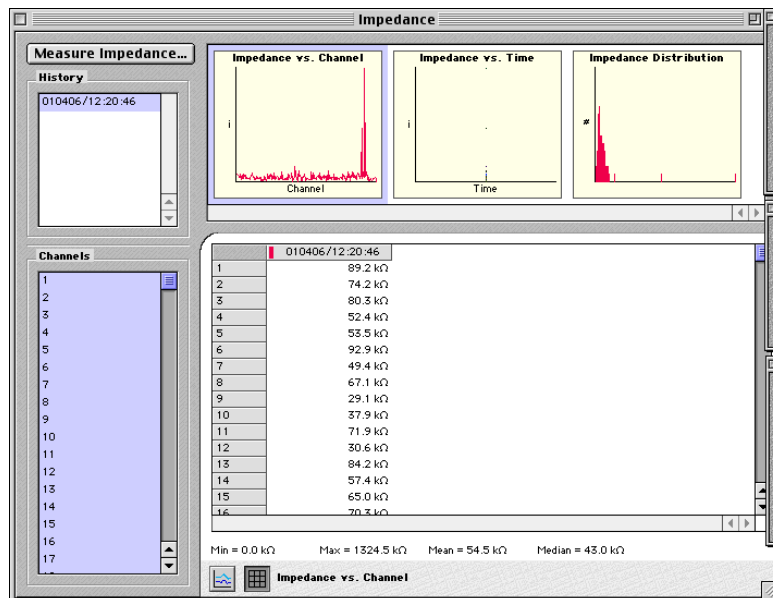

Figure 4-56. Example Impedance display panel
- clicking the Measure Impedances button in the Impedance display panel (see example panel shown in Figure 4-56) or